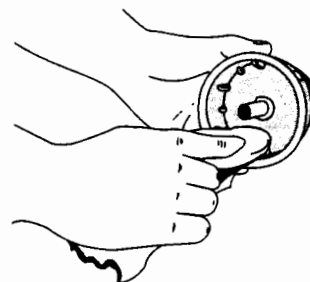

Fig. 28
4. Use a clean cloth to clean the the inner reel, spring, shaft and inner surface of the outer spool (Fig. 28).